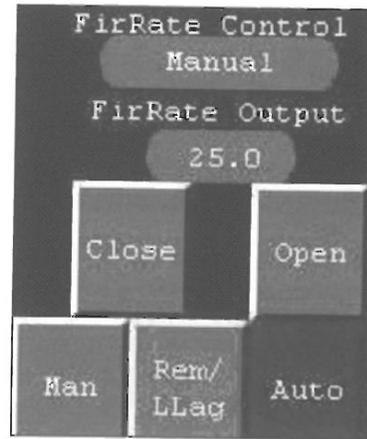

Figure 3-16 Manual Indication
4. Switch firing rate control to the "Manual" mode **Figure 3-16**